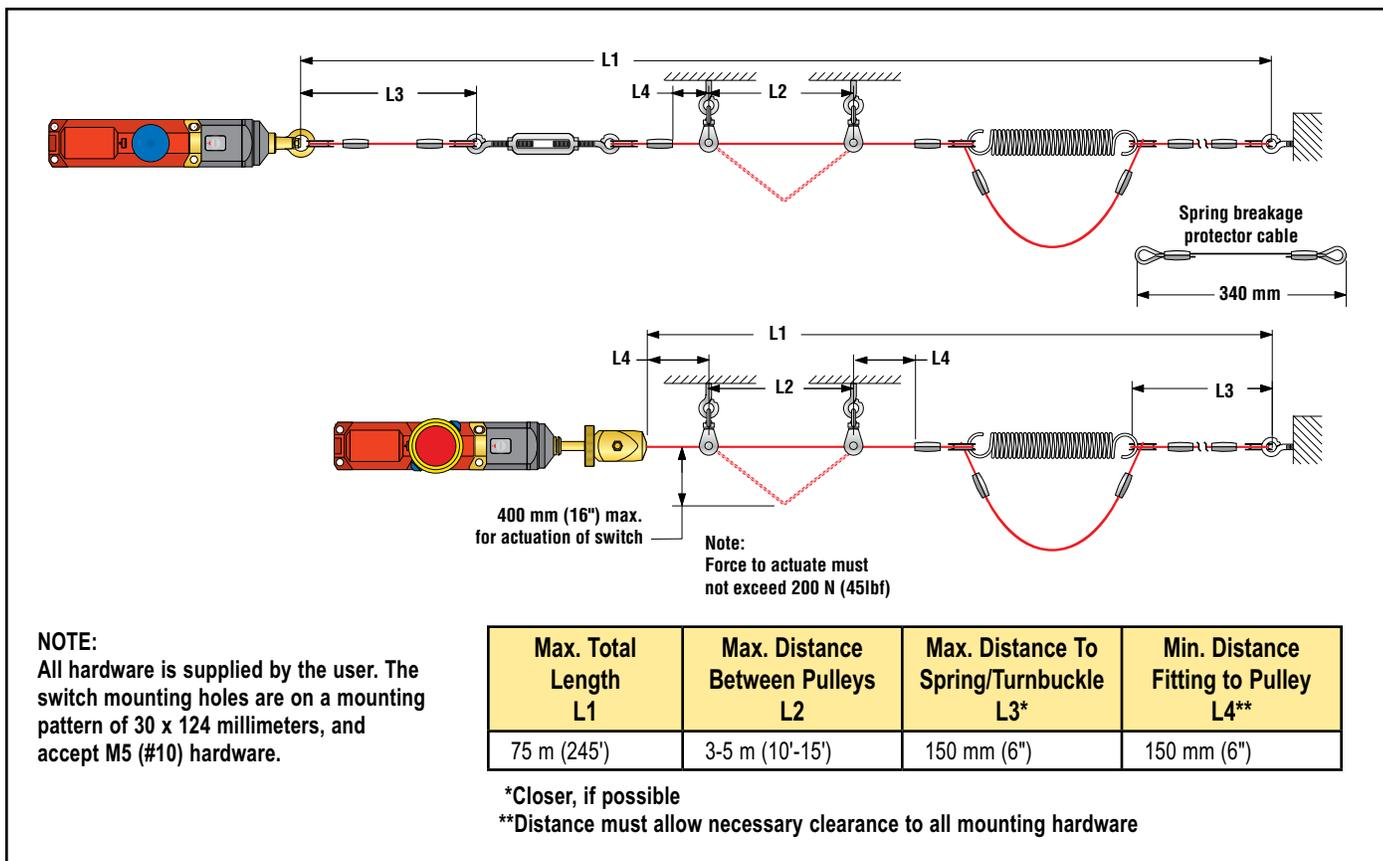

Figure 3. Assembly of rope and hardware (rope span components are listed on page 10)
- Do not exceed the maximum total rope length, as specified in Figure 3. Banner offers models for greater spans; contact the factory or visit [www.bannerengineering.com](http://www.bannerengineering.com) for model selection.
3. Assemble the rope, as shown in Figure 3. Keep the rope's PVC cover intact along its complete length.